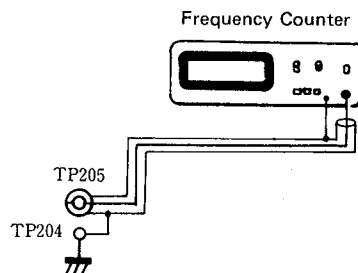

Figure 12
- (1) Connect the frequency counter to TP205 (CLK) and TP204. (Figure 12)
- (2) Remove wire connector W201, turn the power switch on, and short-circuit TP201 and TP202.
- (3) Rotate the L201 core and adjust so that the frequency counter shows a value of $4.322\text{MHz} \pm 0.005\text{MHz}$.
- (4) After adjusting, turn the power off and connect the W201 wire connector.